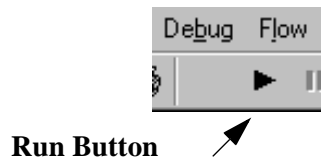

Figure 1-32. The Run button on the Tool Bar
3. Click the **Run** button. It looks like a small arrowhead, and is located on the tool bar below the Debug menu as shown in Figure 1-32.